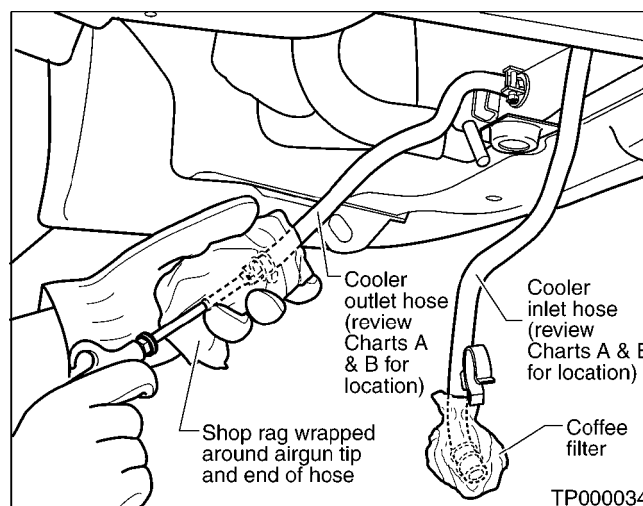

Figure 11
6. Insert the tip of an air gun into the end of the cooler Outlet hose (see Figure 11).
7. Wrap a shop rag around the air gun tip and end of the cooler Outlet hose (see Figure 11).
8. Blow compressed air regulated to 5-9 kg/cm2 (70 – 130 PSI) through the cooler Outlet hose to force any remaining cleaner or fluid into the coffee filter (see Figure 11).